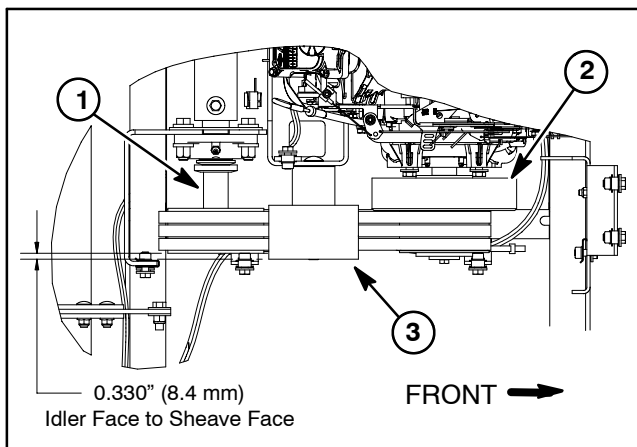

Figure 14
**IMPORTANT: After adjusting belt tension, check that distance from idler pulley face to the faces of the drive and driven pulleys is correct (Figs. 14 and 15). This distance is necessary to ensure that idler pulley is correctly aligned to drive belts. If necessary, re-adjust positions of drive and driven pulleys to allow correct distance.**
9. Secure jack shaft cover (item 22) to machine.